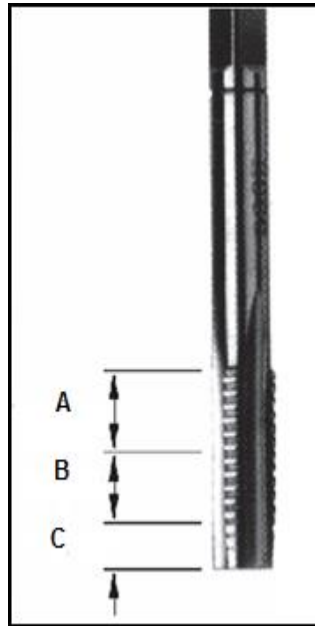

FIGURE 3.1
3.1 Identify **A–C** on the illustration in FIGURE 3.1 below.